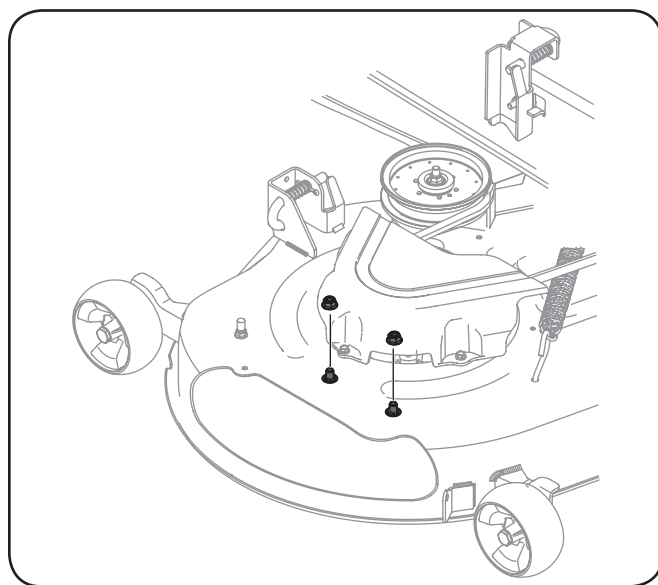

Figure 3-6
- Remove the flange lock nuts from the deck. Do not remove the push nuts or carriage bolts, leaving them in place will aid in installing the chute. See Figure 3-6.